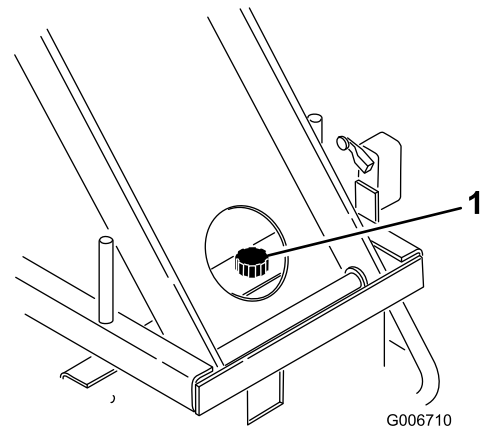

Figure 22
3. Clean area around reservoir breather cap (Figure 22).